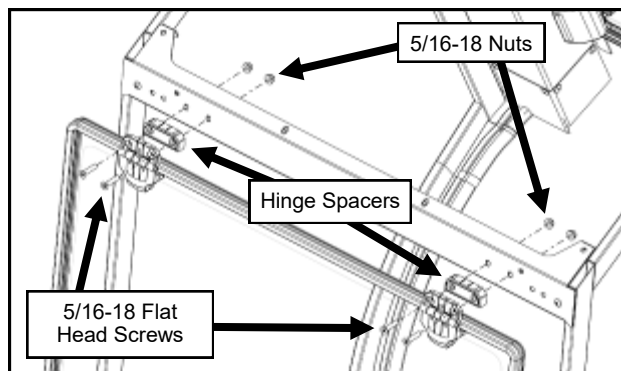

Fig. 13.1 (Windshield)
- 13.1** With assistance, set the windshield up to the side frames and secure it to the windshield support using the hinge spacers and hardware. See Figure 13.1. Leave hardware loose.